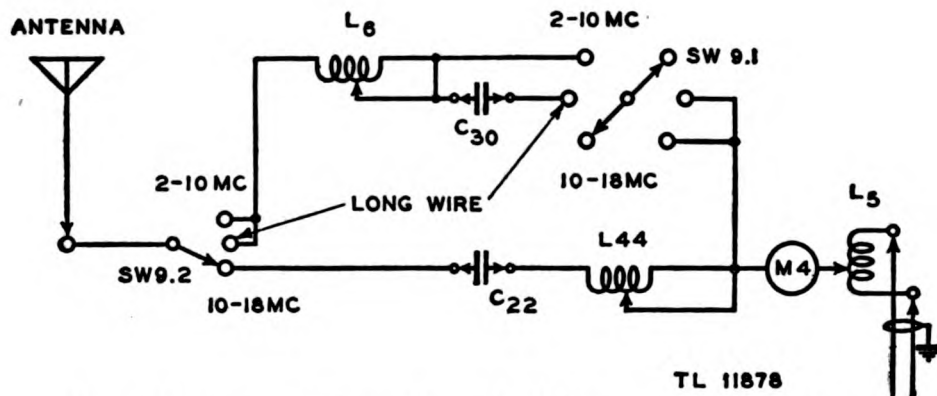

FIGURE 95. ANTENNA TUNING UNIT BC-939-A, SCHEMATIC WIRING DIAGRAM.
- (1) **Frequency Conversion Kit MC-516.**—MC-516 uses Antenna Tuning Unit BC-729-(*), which is originally supplied with the transmitter. For operation above 8 megacycles, remove Vacuum Capacitor CA-423, insert Vacuum Capacitor VC-12 in its place, and throw the SERIES COND switch to the 6-8 MC position. Be sure to replace Vacuum Capacitor CA-423 when again operating below 8 megacycles. For operation on 8-12 megacycles see table I.
- (2) **Frequency Conversion Kit MC-517.**—MC-517 is supplied with Antenna Tuning Unit BC-939-A. (See fig. 95.)